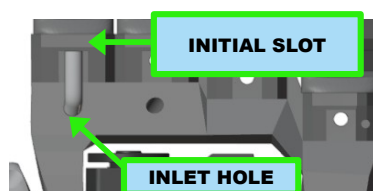

Figure 5.24: Inserting the tube into the initial slot (front view)
1. Insert one end of the PTFE tube into the initial slot (on the rear of the skeleton) of the extension tendon (figure 5.24)